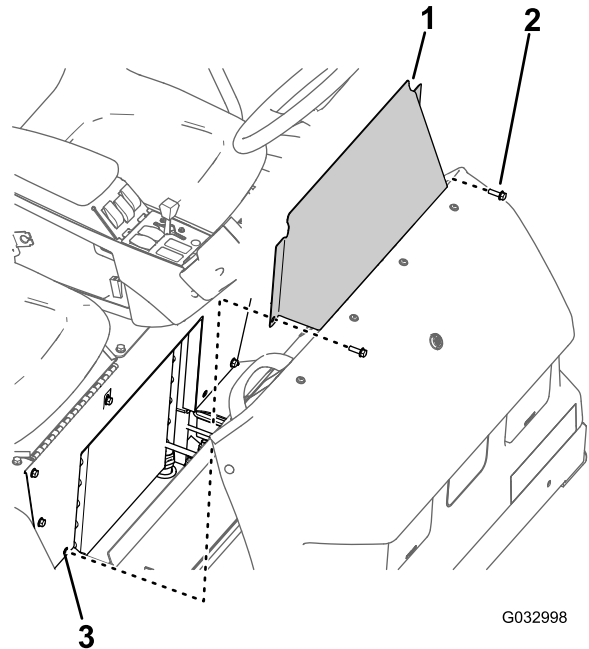

Figure 64
1. Remove the 2 flanged-head bolts that secure the seat-base-access panel to the seat base (Figure 64).
2. Remove the seat-base-access panel from the machine (Figure 64).
1. Align the holes in the seat-base-access panel with the holes in the seat base (Figure 64).
2. Assemble the seat-base-access panel to the seat base with the 2 flanged-head bolts (Figure 64) that you removed in step 1 of Removing the Seat-Base-Access Panel (page 53).